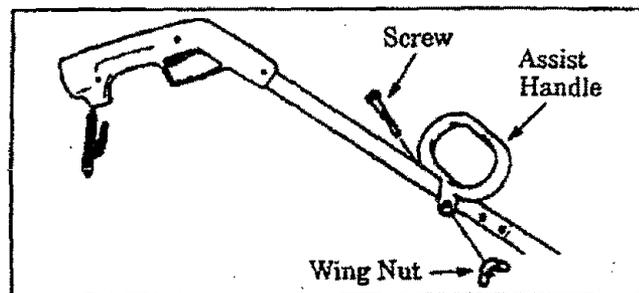

Figure 3
1. Firmly push Assist Handle onto tube. Figure 3.
3. Pass the Hex Head Screw through the hole in the Assist Handle. Figure 3. Thread the Wing Nut onto the screw and tighten securely.